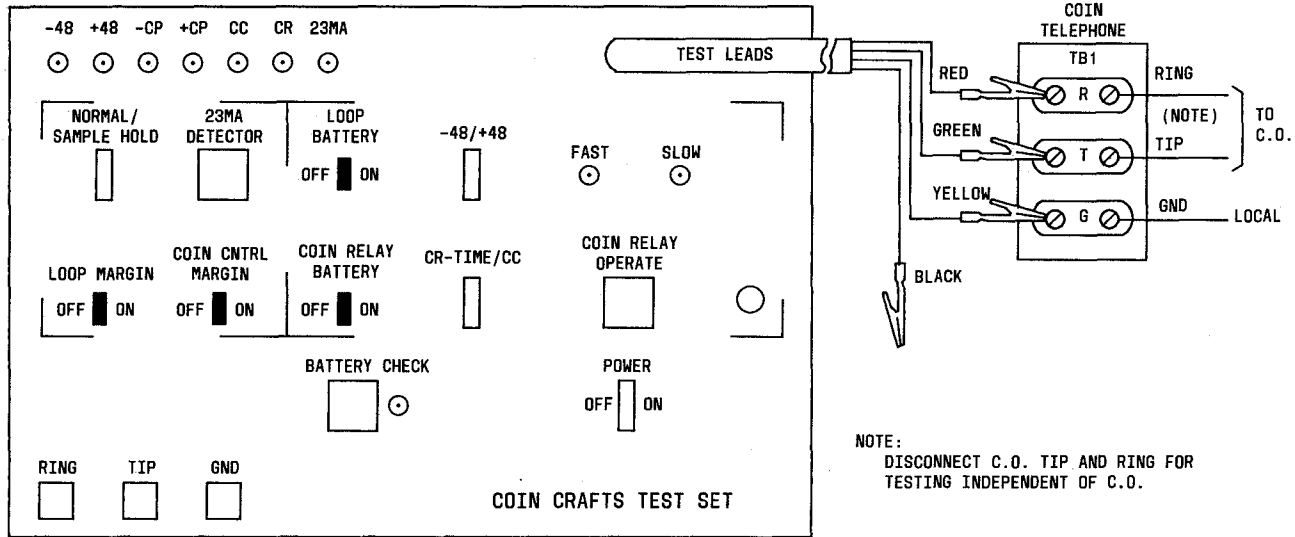

Fig. 2—Test Lead Set-up for All Tests Except Coin Relay Timing
- (1) **23MA Test**—The 23MA current detector circuit simulates a 350-ohm load to the CO and will light a LED indicating when a current of 23MA or greater is flowing in the loop. This represents a worst case telephone set resistance which could be encountered in the field.
- (b) Connect test set leads to TB-1 of coin telephone set per Fig. 2:
- (2) **Loop Margin Test**—The loop margin test checks the ring and tip loop from the CO by shunting 10 percent of the available current away from the coin telephone set. This in effect extends the loop by 10 percent. If the circuit fails the loop margin test, it indicates a borderline loop resistance condition and the telephone set may experience erratic troubles or failures.
- (b) Connect test set leads per Fig. 2 and take coin telephone handset off-hook:
- (3) **Coin Control Margin Test**—The coin control margin test checks for marginal conditions on the tip to ground coin control path. A failure on this test indicates a borderline circuit resistance and the telephone set may experience erratic trouble or failures.
- (b) Connect test set leads per Fig. 2 and take telephone handset off-hook:
- (4) **Foreign EMF Test**—This is a special use test where the test desk may not be available but you do have access to service on the CO main distributing frame. It will show if there is induced or crossed battery and ground on the pair but will not indicate trouble on individual conductors.
- (b) Connect test set leads per Fig. 2:
**3.04 The CO Sequence Test:** Tests the interaction between the coin telephone set and the CO equipment. During these tests, LEDs other than those shown may light. These others may be ignored. Prepare coin telephone set as follows and proceed as in (1) or (2).
- Connect test set leads to TB-1 of coin telephone set per Fig. 2.
**(1) Coin First Mode Operational Test:**
- (1) Set coin telephone and coin crafts' test set up as follows:
- (c) Connect test set leads per Fig. 2.
- (j) Proceed as in (2), (3), (4), or (5).
- (2) COIN FIRST OPERATION WITH 1A, 2A, 1C OR 2C COIN TELEPHONES